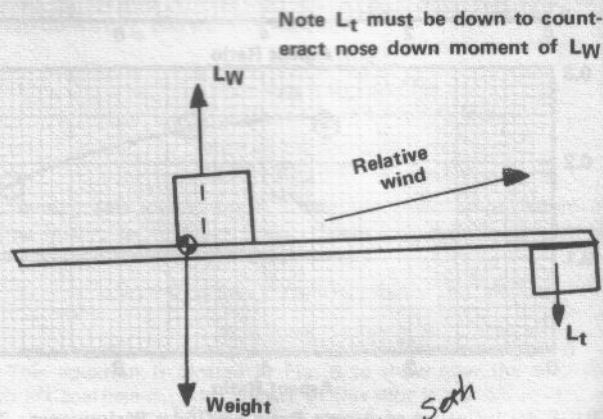

FIGURE 8: Distribution of Lift on a Glider with Forward Center of Gravity.
Equation (12) shows that as the C.G. approaches the quarter chord of the wing, then the distance x decreases and the moment required to stabilize the glider is decreased. In fact, if the C.G. is moved ahead of the wing quarter chord, the tail lift must decrease so much, as shown in Fig. 8, that it becomes *negative*. At the same time, if L_t is negative, the wing lift must be increased according to Eq. 11 to support the weight. This is why the statement was made earlier about forward C.G. locations being an inefficient way to trim a glider.